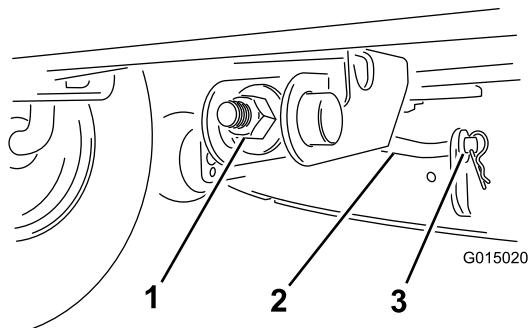

Figure 39
8. Adjust the front-to-rear blade slope by rotating the adjustment nut in the front of the mower (Figure 39).